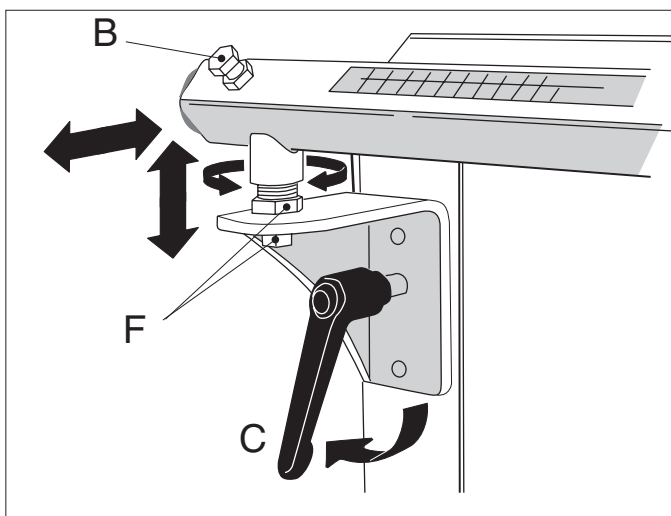

Fig. 3
- Mount the guide bar onto the brackets and lock with locking handle **C** as shown in fig. 3. (The fig. shows Norsaw 1603). The sketch below shows the placing on the different models.
- For height adjustment of the roller box use screws **F** fig. 3, and use the long fence to bring the roller box flush with the turntable fig. 4a. Adjust the height of the support trestle.
Fig 3 b